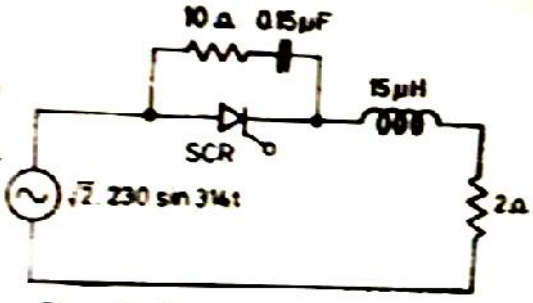

Fig.1 7M
- b) For the circuit shown in the Fig.1